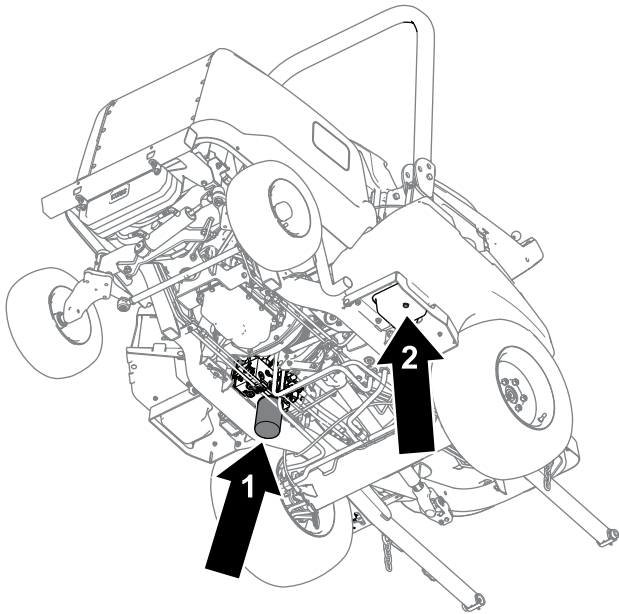

Figure 85
4. Remove the drain plug (Figure 85) from the bottom of the tank and let the hydraulic fluid flow into the pan.
6. Place a drain pan under the filter (Figure 85), remove the filter, and let any remaining oil drain into the pan.